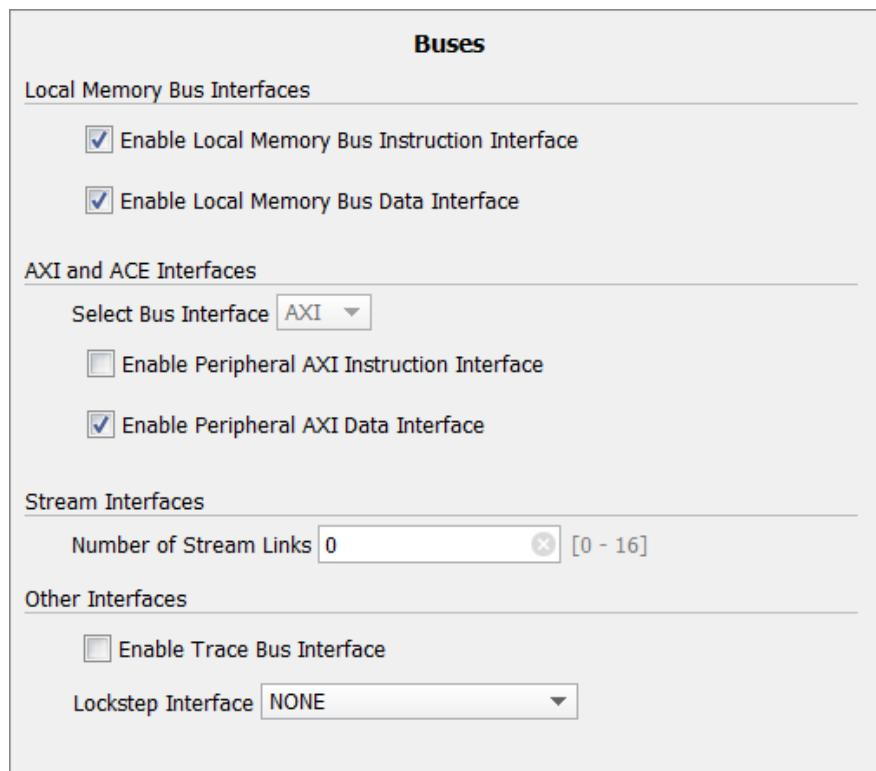

Figure 4-13: MicroBlaze Configuration Wizard Buses Page
- **Enable Local Memory Bus Instruction Interface:** Enables LMB instruction interface. When this instruction is set as shown in Figure 4-13, page 101, the Local Memory Bus (LMB) instruction interface is available. A typical MicroBlaze system uses this interface to provide fast local memory for instructions. Normally, it connects to an LMB bus using an LMB Bus Interface Controller to access a common Block RAM.